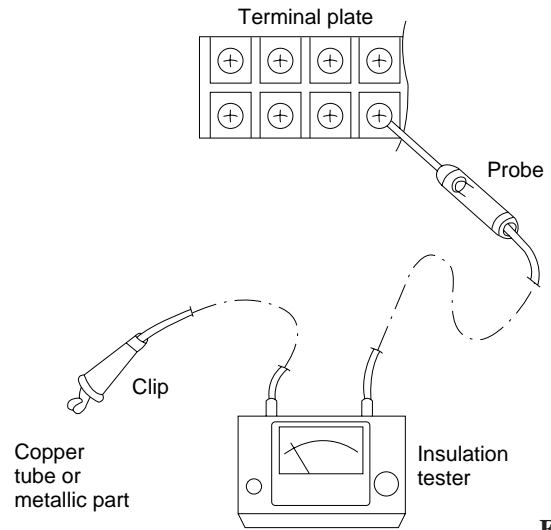

Fig. 2
Clamp an aluminum plate fin or copper tube with the lead clip of the insulation resistance tester and measure the resistance by placing a probe on ①, and then ② on the terminal plate. (Fig. 2)
Clamp a metallic part of the unit with the lead clip of the insulation resistance tester and measure the resistance by placing a probe on ①, and then ② on the terminal plate. (Fig. 2)